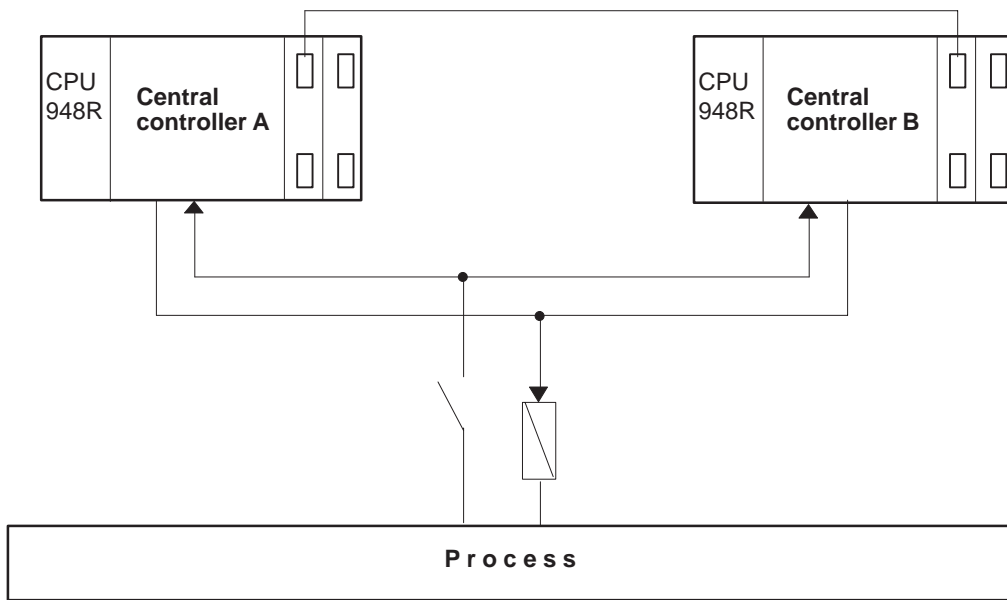

Figure 1-2 Structure of the S5-155H with Two-Channel Redundant I/O Module Configuration
**Multi-Channel Configuration** A two-channel or three-channel configuration should be implemented whenever requirements dictate that input and output modules should also have the highest possible degree of fault tolerance (Figures 1-2 and 1-3).